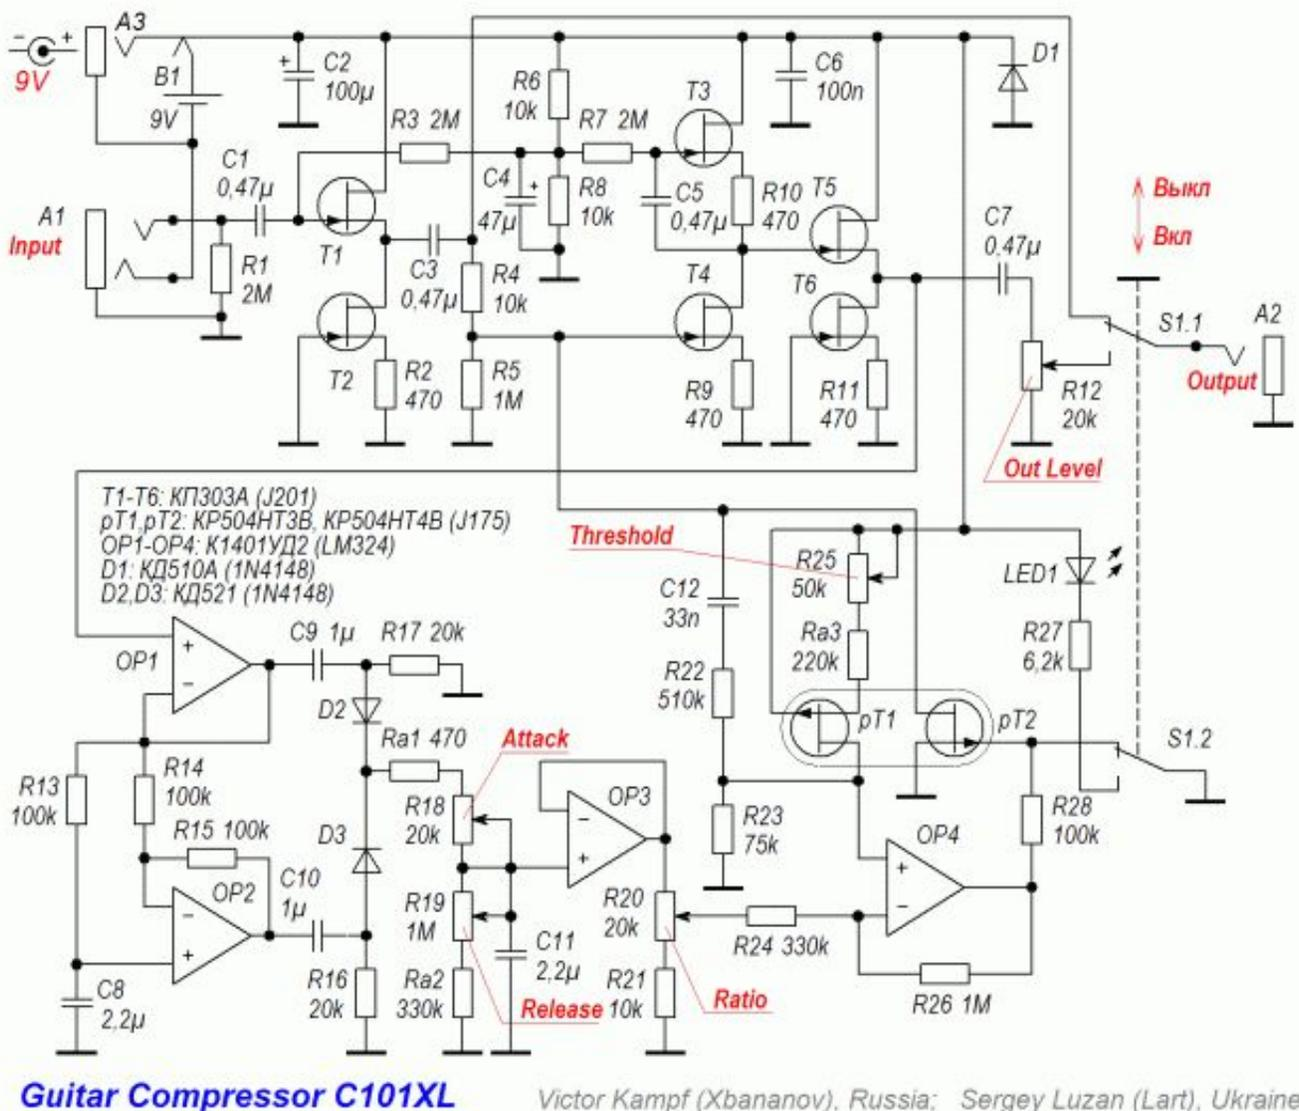

Figure 2. The scheme of the compressor for the same type of field effect transistors (focused on foreign element basis).
*Option compressor according to the scheme in Figure 2*